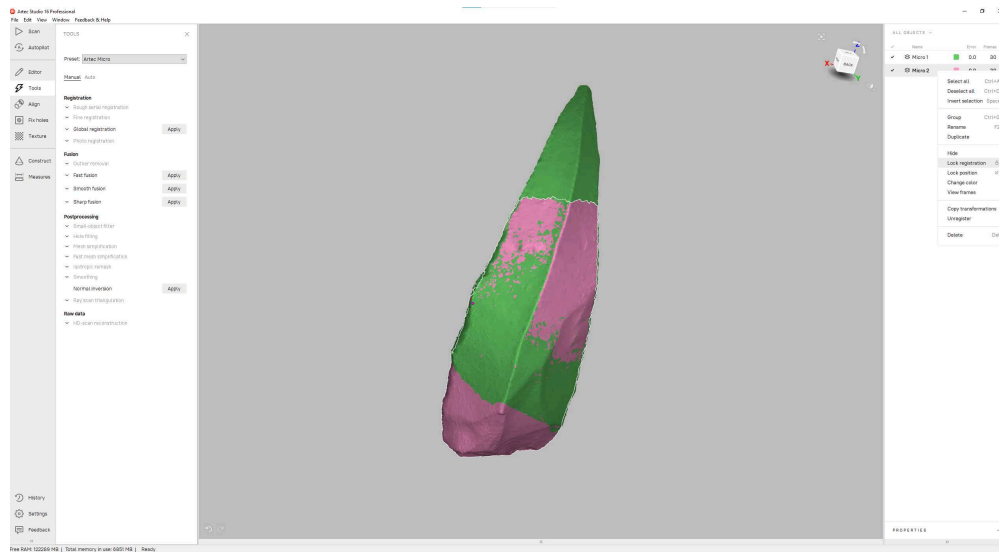

Fig. 11. The aligned bladelet and the *Lock registration* step to do before running a new *Global registration* and the *Fast fusion*.
- 18 Go to *Tools* again and lock the registrations of each scan before moving to the next steps. This can be done either by clicking on the lock symbol on the right panel or right-clicking on each scan and selecting *Lock registration* (Fig. 11).